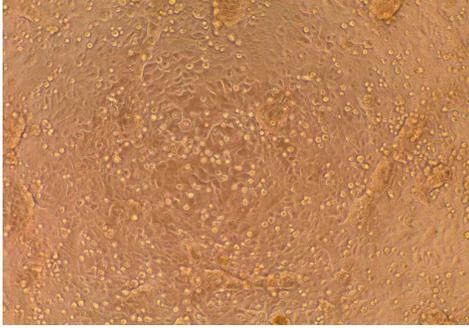

Figure 2. NHBE morphology before airlift
**NOTE:** Check morphology and confluence daily. Allow the cells to maintain confluence until day 3 at which time the monolayer should have the appearance from figure 2.